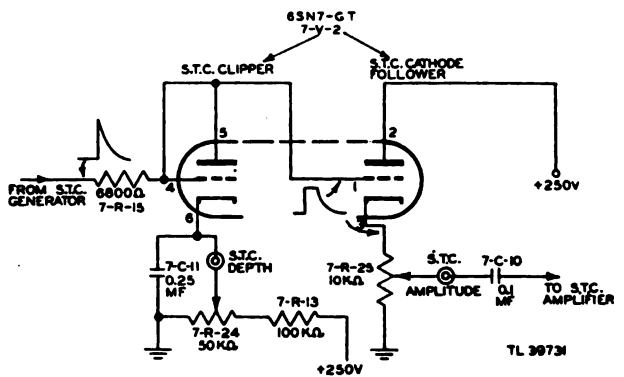

Figure 96. S.T.C. clipper and cathode follower, simplified schematic diagram.
**q. S.T.C. CLIPPER.** The second stage in the S.T.C. circuit is the S.T.C. clipper (fig. 96), one-
**r. S.T.C. CATHODE FOLLOWER.** The output of the S.T.C. clipper is directly coupled to the grid of the S.T.C. cathode follower (fig. 96), the second section of the 6SN7 tube (7-V-2). The stage is a conventional cathode follower, the output of which is variable from zero to approximately 95 percent of the input and is coupled through a 0.1-mf capacitor 7-C-10 to the grid of the S.T.C. amplifier.